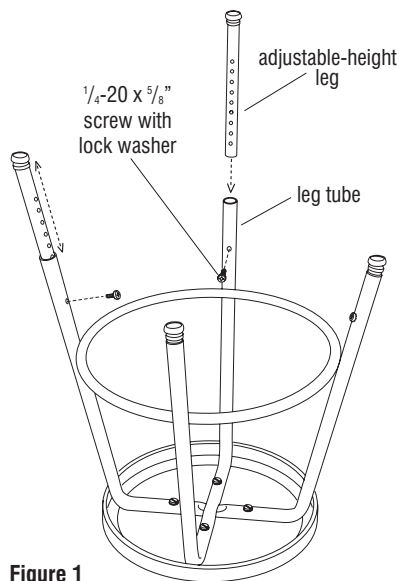

Figure 1
1. Remove adjustable-height legs from the parts bag. Using a #3 Phillips screw driver, unscrew the $\frac{1}{4}$ -20 x $\frac{5}{8}$ " screws with lock washers from each adjustable-height leg (Figure 1).
2. Carefully turn stool upside down on a soft protective surface. Slide each adjustable-height leg into the leg tube of the stool frame and align the mounting holes to the desired stool height. Using a #3 Phillips screw driver, thread each screw through the mounting hole in the leg tube, and into the adjustable-height leg until the lock washer fits snugly. Tighten all screws securely (Figure 1).